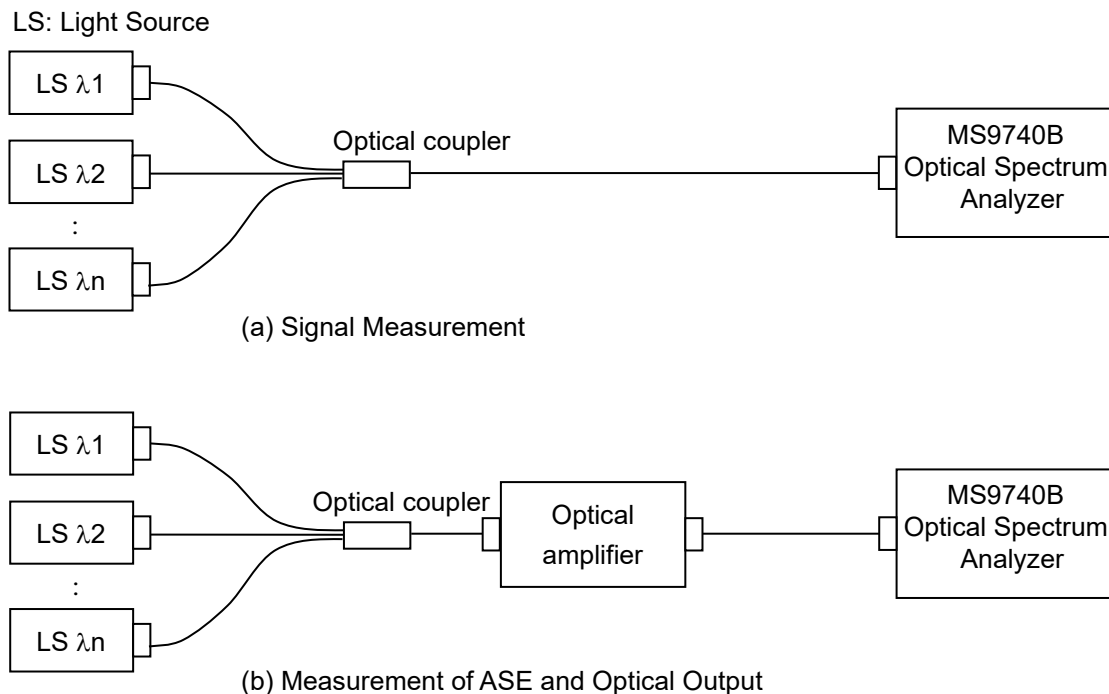

Figure 5.8.5-1 Measurement System When the Optical Input is Wavelength Multiplexed
7. Input the output light of the optical amplifier to MS9740B as shown by the connection in Figure 5.8.5-1 (a).
14. Input the output light of the optical amplifier to MS9740B as shown by the connection in Figure 5.8.5-1 (b).